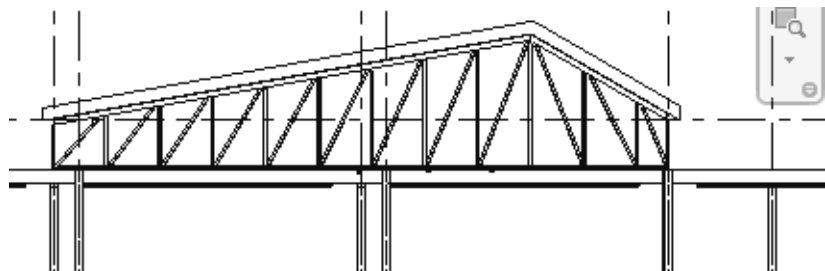

Figure 7-73
8. Select the roof. Allow time for it all to process until the trusses expand to touch the roof, as shown in Figure 7-73.